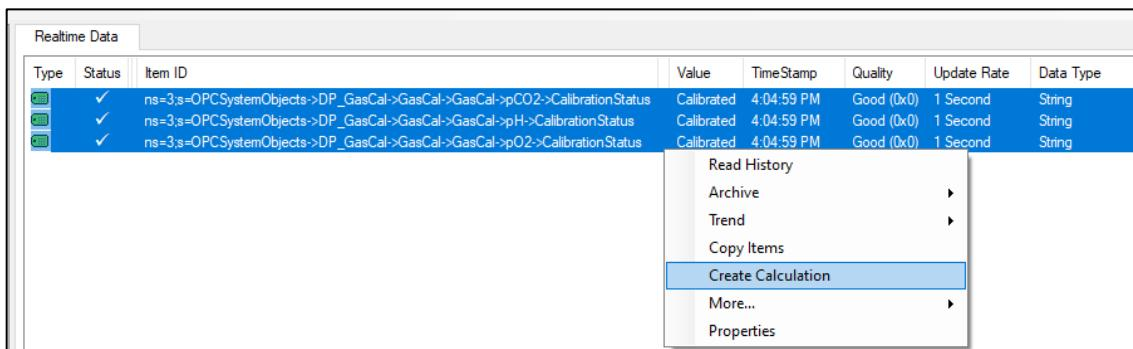
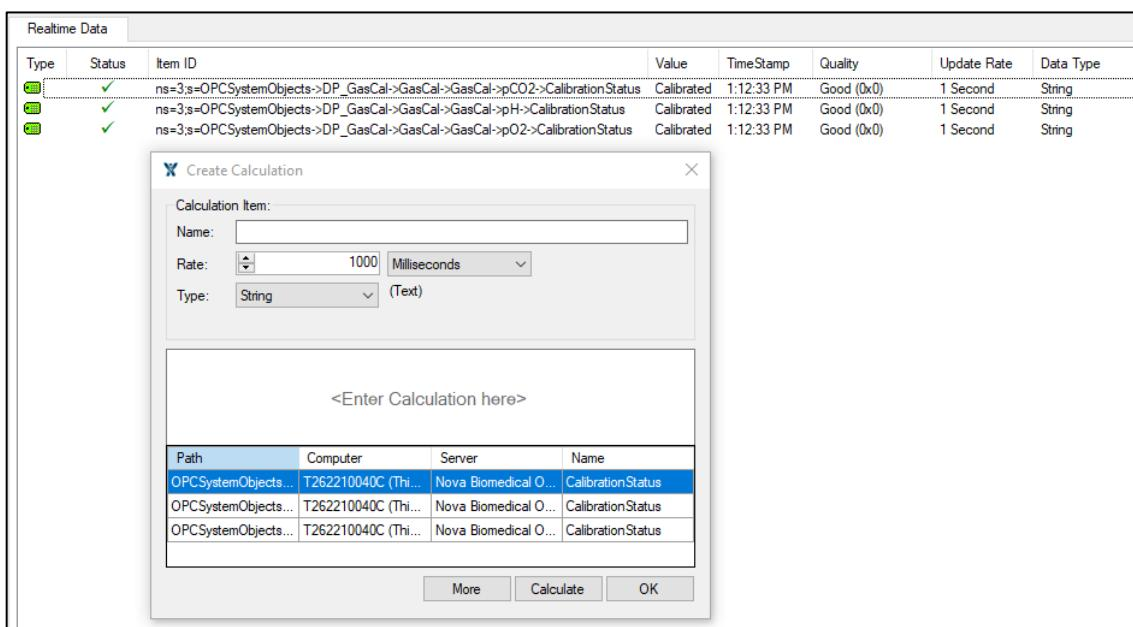

Figure 7.3 Create Calculation for Option 2
Figure 7.4 Calculation Window for Option 2
2. Select the desired tags within the "Realtime Data" view, right-click, and choose "Create Calculation" (Figure 7.3) to open the Calculations window referencing the selected tags from "Realtime Data" view (Figure 7.4).